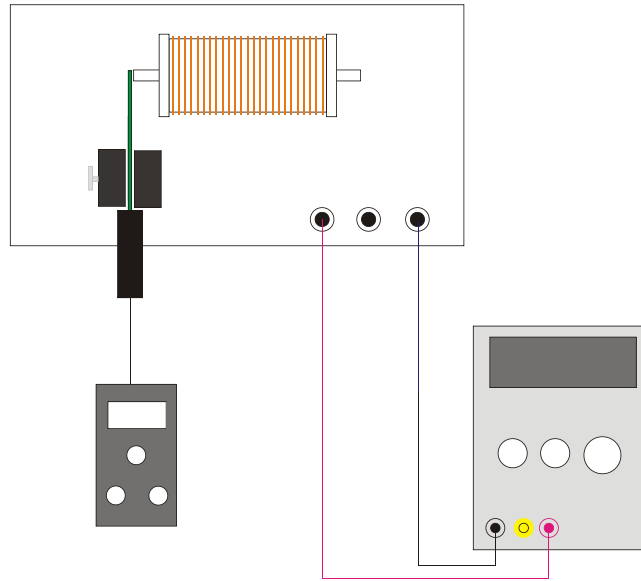
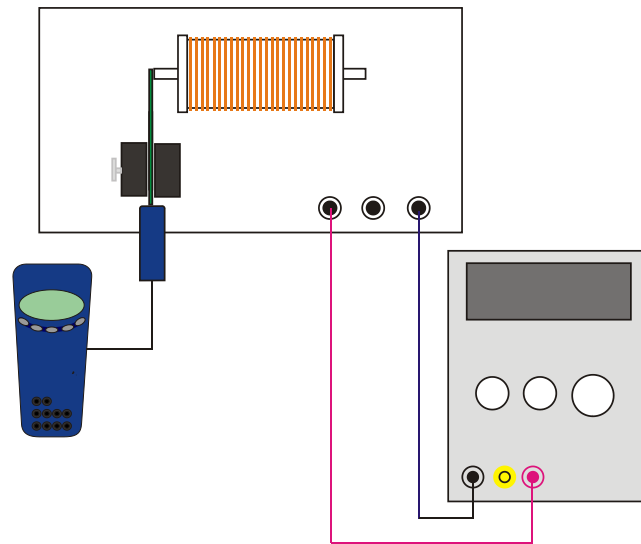

Fig. 3: Manual recording of hysteresis curve with teslameter E
Fig. 4: Manual recording of hysteresis curve with 3B Net/log™
- Connect up the power supply, coil, teslameter or 3B Net/log as shown in Fig. 3 and Fig. 4.